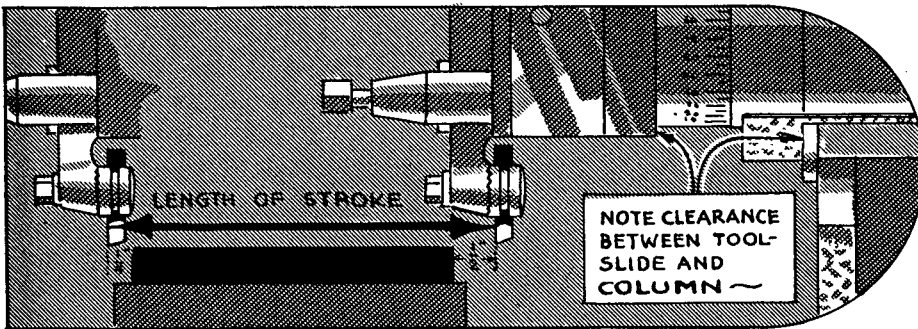

FIG. 386
8. Set the stroke of the shaper $3/4"$ to $1"$ longer than the length of the surface to be machined (Fig. 386). (Refer to page 79.)
9. Position the ram so that the tool is about $1/4"$ beyond the work when it is at the forward position (Fig. 386). (Refer also to page 81.)
10. Move the ram to the beginning of the stroke and notice whether or not the head will strike the column when the head is swiveled (Fig. 386).
7. Position the ram so that the cutting edge of the tool is about $1/4$ " beyond the work when the ram is at the forward position (Fig. 386). (Refer also to page 81.)